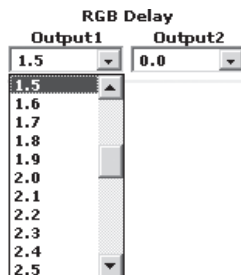

Figure 6-3 — RGB delay scroll box
1. Click in the RGB Delay field for the desired output. A drop-down scroll box appears (figure 6-3).